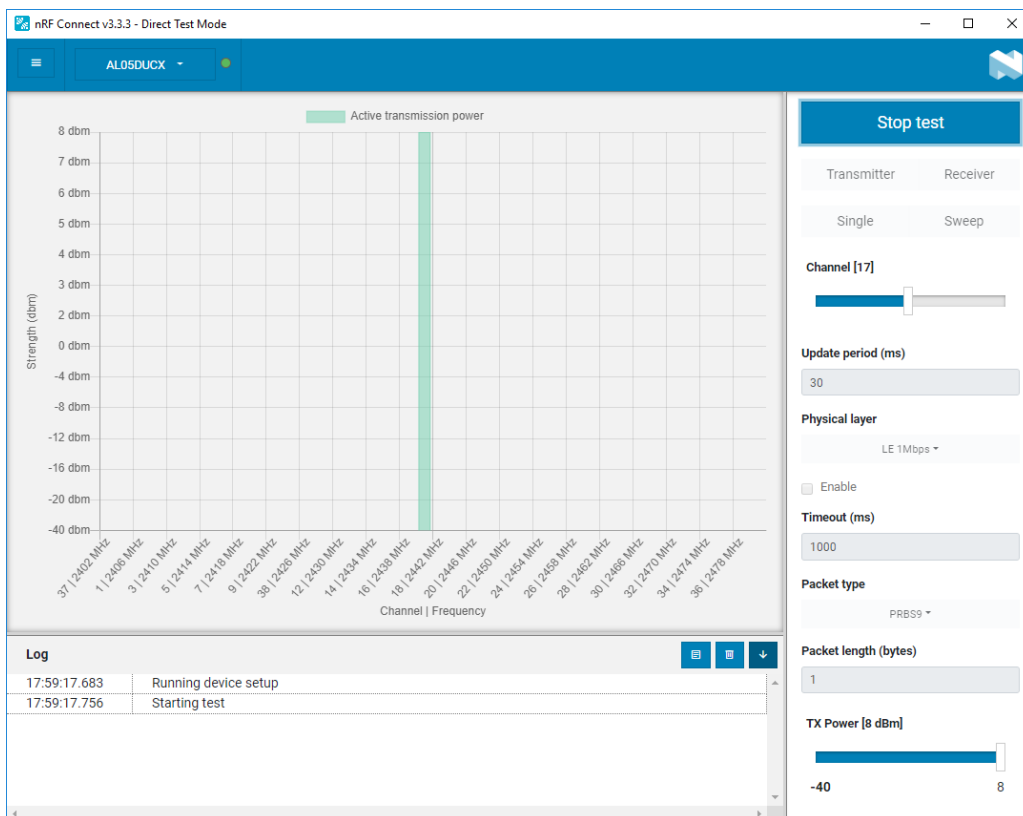

Figure 9: Successful initiation of BLE transmitter test
- Once configured, click **Start test**. Figure 9 shows an active BLE transmitter test.